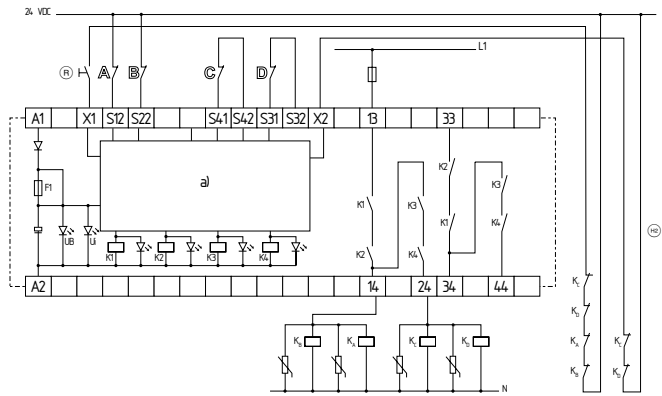

Fig. 2: SRB 400CS, 400CS/T
**Dual-channel control, shown for a emergency stop circuit; with two contacts A and B and a guard door monitor with two contacts C and D, where at least one is a positive break contact; with external reset button (related on the switch-off level 1) (see Fig. 2)**